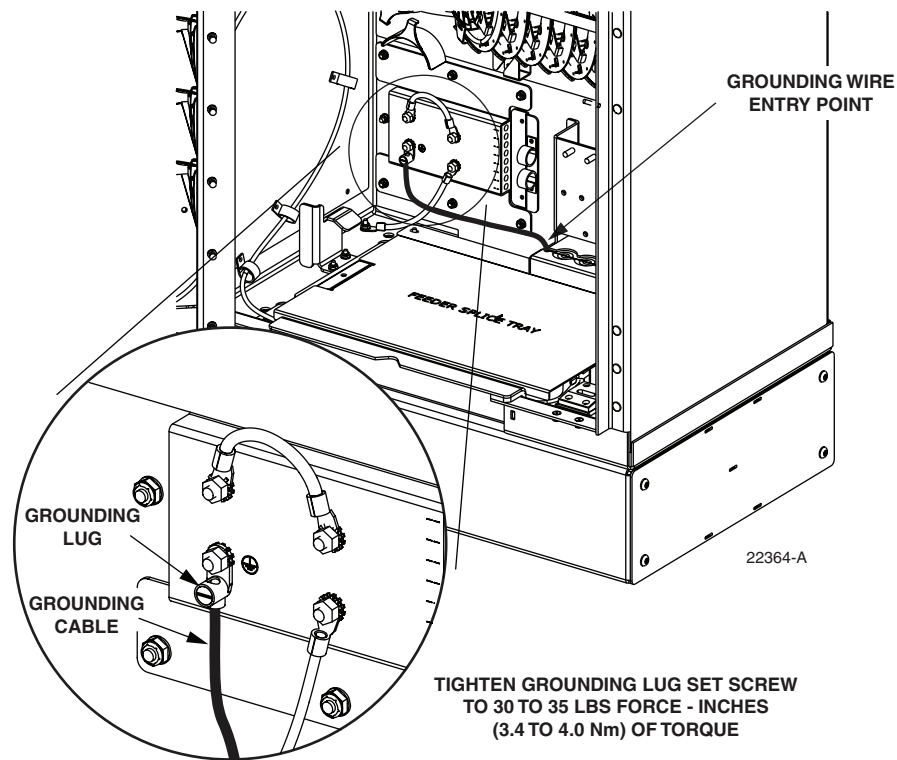

Figure 14. Grounding Wire Connection To Cabinet
2. Working through the access openings in the base of the cabinet, insert the grounding wire through the flexible membrane at the point indicated in Figure 14.